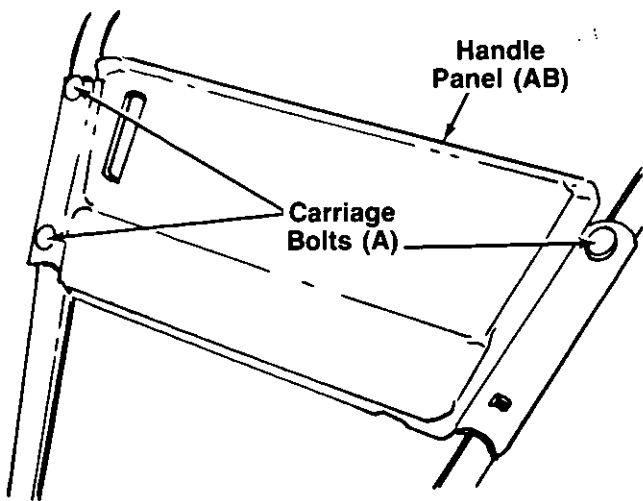

FIGURE 10.
11. Place the handle panel (AB) in position on the handles. Secure the upper holes in the panel to the handles with carriage bolts (A), lock washers (B) and hex nuts (C), finger tight only. See figure 10.
12. Place carriage bolt (A) through the handle panel, handle and handle brace on the lower right hand side of the handle panel, finger tight only. See figure 10.